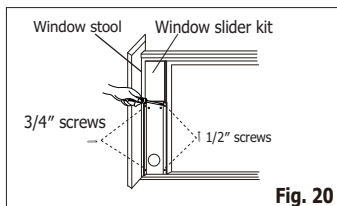

Fig. 20
3. Close the sliding sash securely against the window slider kit. (Fig. 20)
4. Drive two 1/2" screws to secure the window slider kit to the window sash. (Fig. 20)
5. Drive two 3/4" screws to secure the window slider kit to the window stool. (Fig. 20)